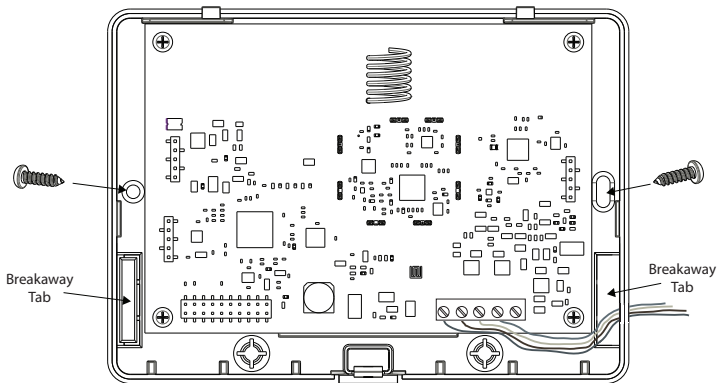

Figure 2
2. Mount the cabinet securely to the wall using the supplied 2 (two) screws. See Figure 2.